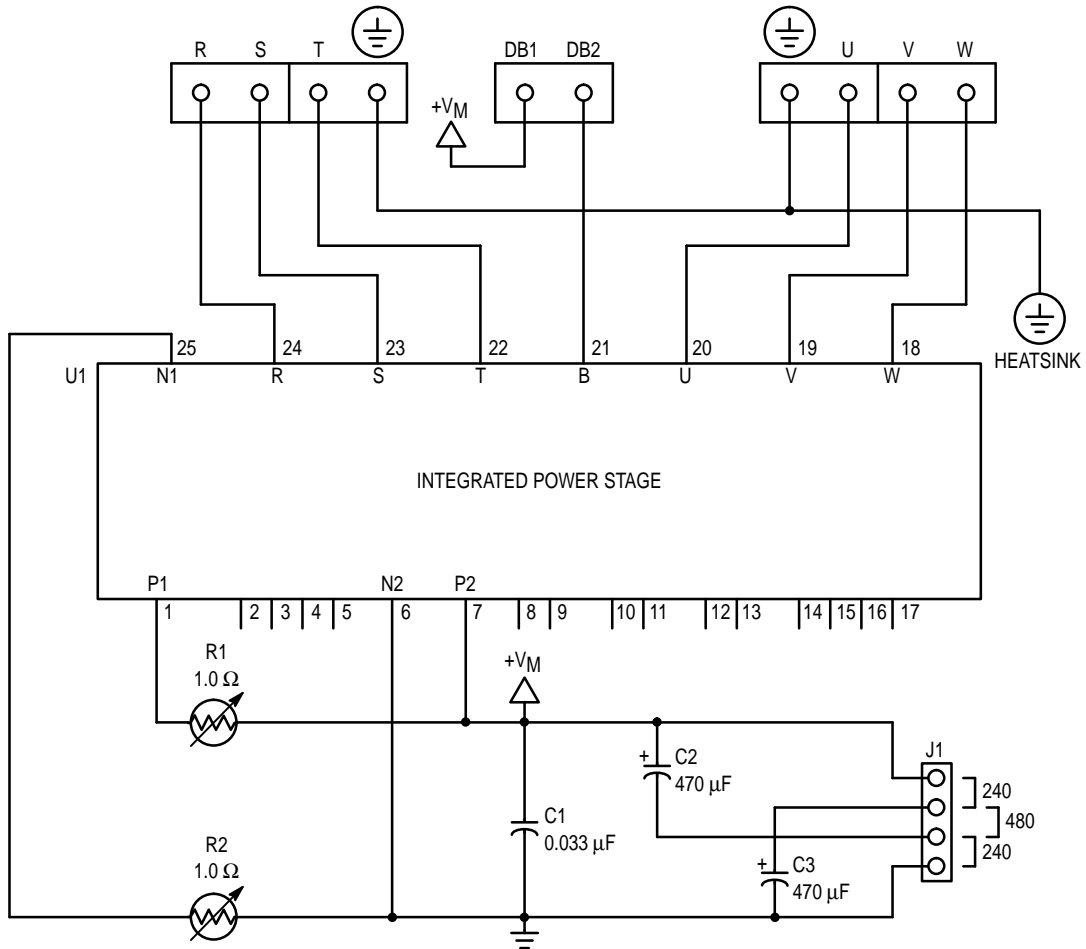

Figure 4. Power Electronics
The power electronics for the demo board is shown in Figure 4. Three phase or single phase AC power is connected to the input terminals R, S, and T. The order of the input connections makes absolutely no difference. The Integrated Power Stage (U1) rectifies the AC and provides a DC output at P1 (1) and N1 (25). Negative temperature coefficient thermistors (R1 and R2) are used to limit the inrush current and protect the rectifier diodes from excessive surge current. Two thermistors with a cold resistance of 1 Ω are sufficient to